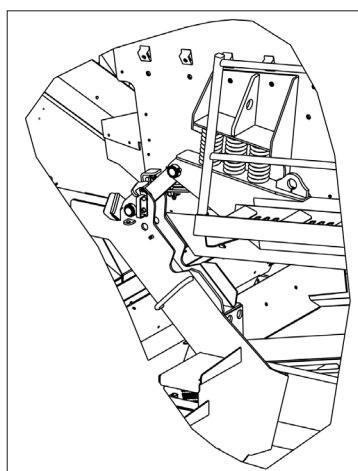

Figure 9.59 - Jack-Up Link Arms
9. Pin the jack-up link arms in this position and secure pins with R-clips, Reference: Figure 9.59.